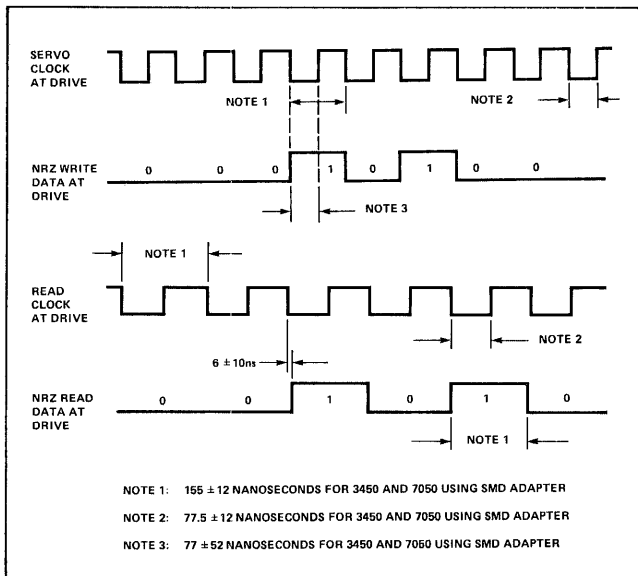

Figure 3-50. NRZ Data and Read Clock Timing
8. *Data and Clock Line* (see Figure 3-50)
derived clock signal that is synchronous with the recovered data, as shown in Figure 3-50. Read Clock is in phase sync with the Read Data within 8 microseconds after the leading edge of Read Gate.